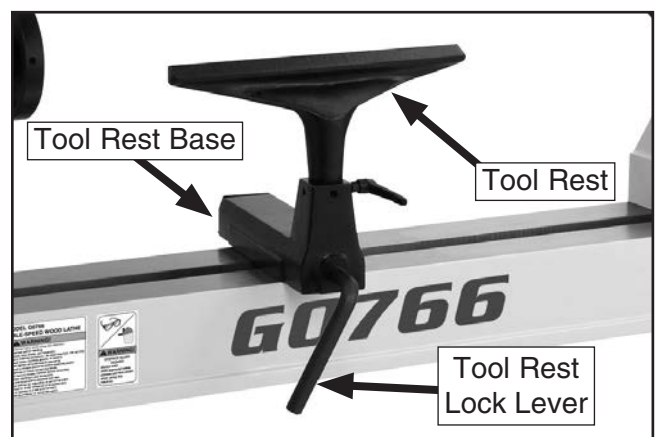

Figure 15. Tool rest installed on the tool rest base.
8. Insert tool rest into tool rest base and tighten tool rest lock lever, as shown in **Figure 15**.